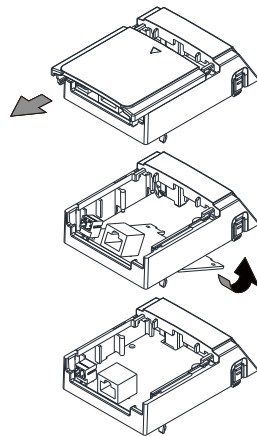

Figure 8-15
2. Assemble the option card: Detach the upper cover of the mounting box for the option card by slipping and make the terminal block and connector of the option card face upward. Fix the front end of the option card to the slots, and then rotate it, as shown in the Figure 8-15.